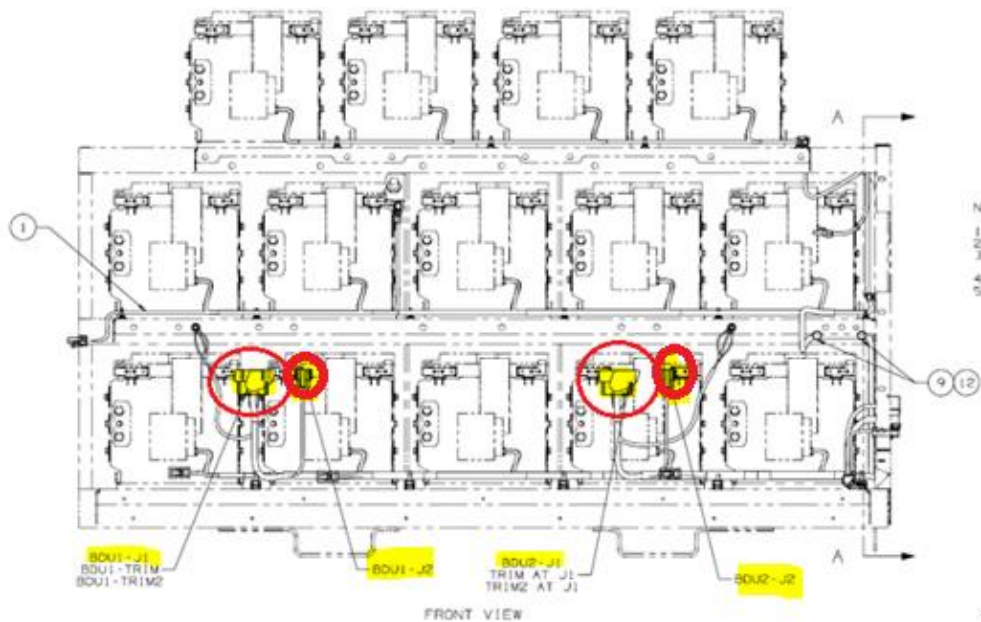

Figure 13: Rear ESS J1-BDU Connector Location
3.5 Re-install the BDU assemblies using the existing hardware. Ensure both J1 and J2 to BDU connections circled in Figure 13 below are seated properly.